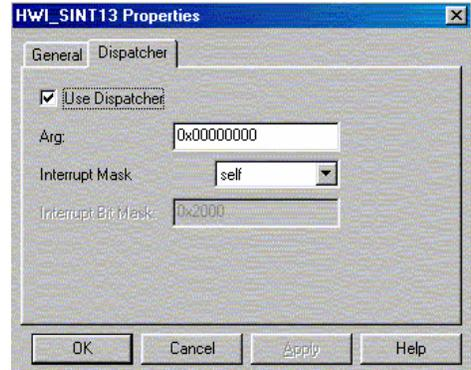

Figure 27. HWI SINT13 Dispatcher Tab
3. In the *Dispatcher Tab*, set the options as shown in Figure 27. Enable Dispatcher and interrupt mask self.